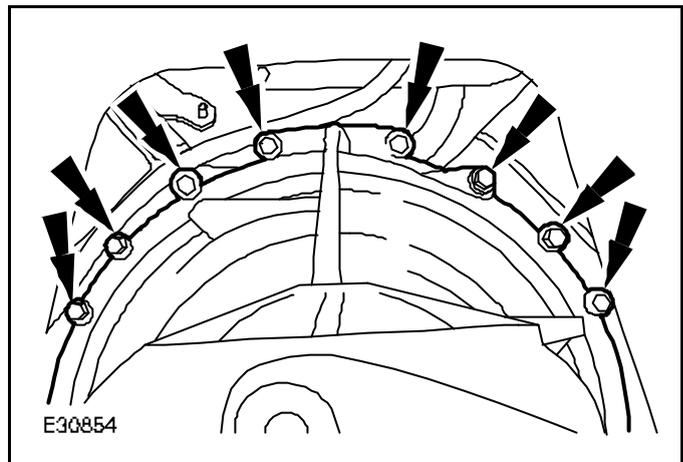

Fig. 2
- 10 Install and fully tighten the retaining bolts to 48 Nm (see Fig. 2).